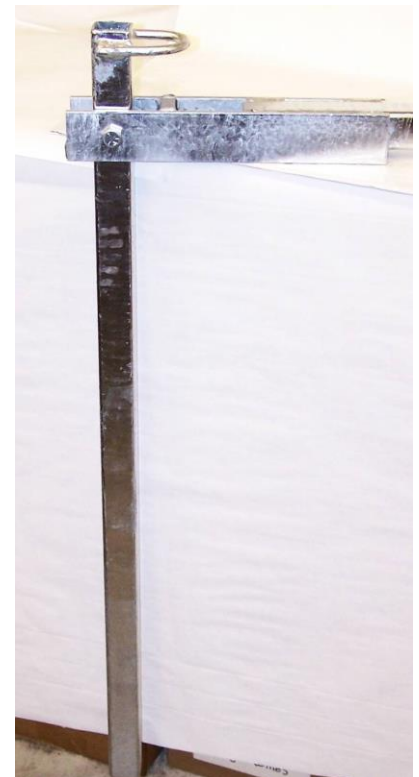

Figure 7
7. Install the Lever Arms using supplied 3" X 1/2" bolts (Figure 7). Leave the bolts loose until the springs are attached to the arm and cable.